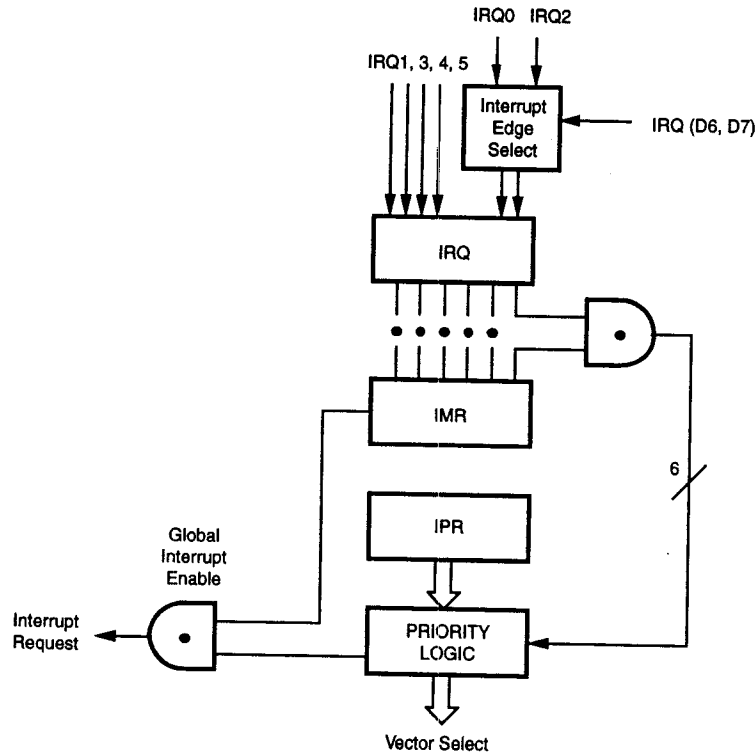

Figure 11. Interrupt Block Diagram
**Interrupts.** The Z86E03/E06 has six different interrupts from six different sources. The interrupts are maskable and prioritized (Figure 11). The six sources are divided as follows; three sources are claimed by Port 3 lines P31-P33, two sources in the counter/timers, and one source for the SPI. The Interrupt Mask Register globally or singularly enables or disables the six interrupt requests (Table 2).